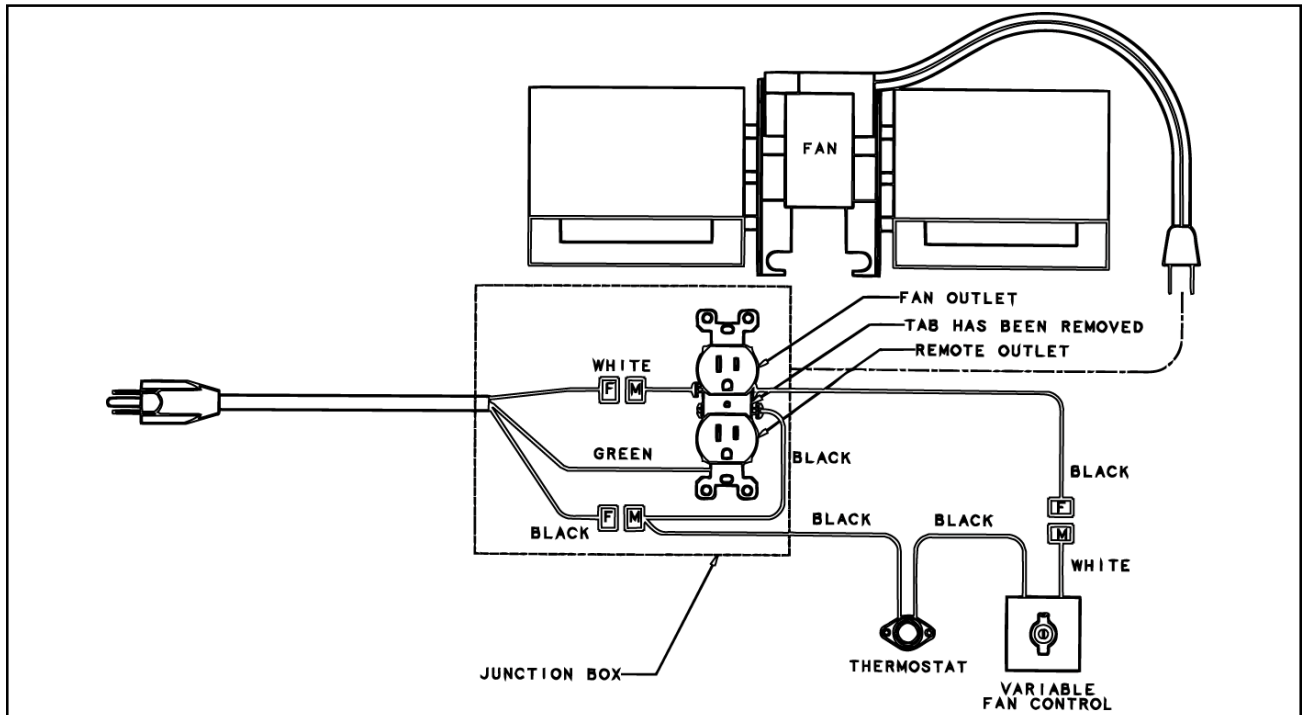

Figure 24 - Wiring Diagram
- a. A 110V AC outlet should be located close to the lower left side of the appliance to allow the fan to be plugged in. See Figure 24.